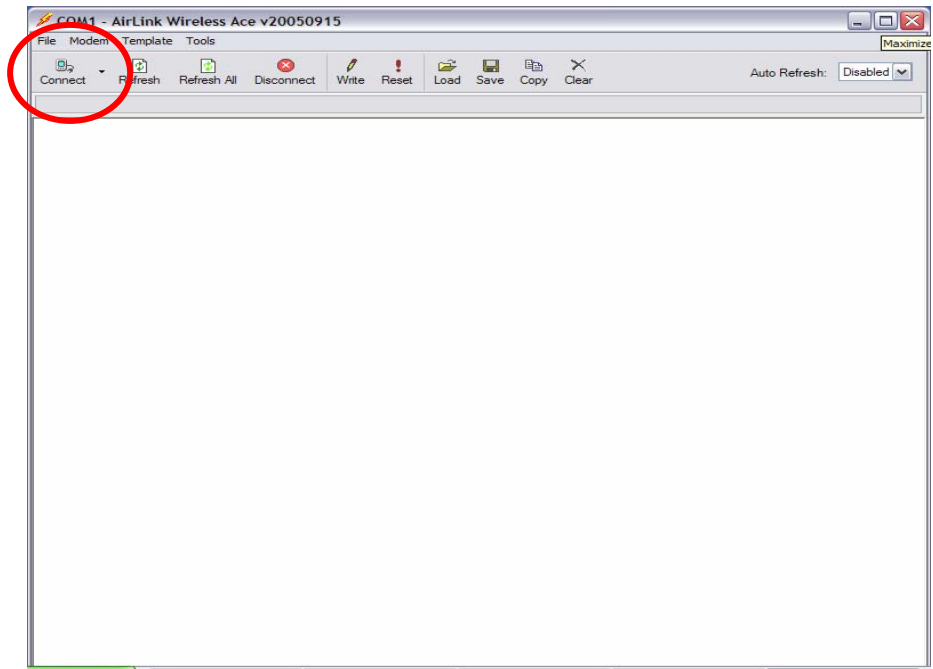

Figure 1 – Wireless Ace Connection Screen
2. Start Wireless Ace, apply power to the modem, and select the Connect tab in the upper left corner of the menu selection bar, as shown in Figure 1 –Wireless Ace Connection Screen.
1. Start Wireless Ace, apply power to the modem, and select the Connect tab in the upper left corner of the menu selection bar, as shown on Page 5 in Figure 1 – Wireless Ace Connection Screen.